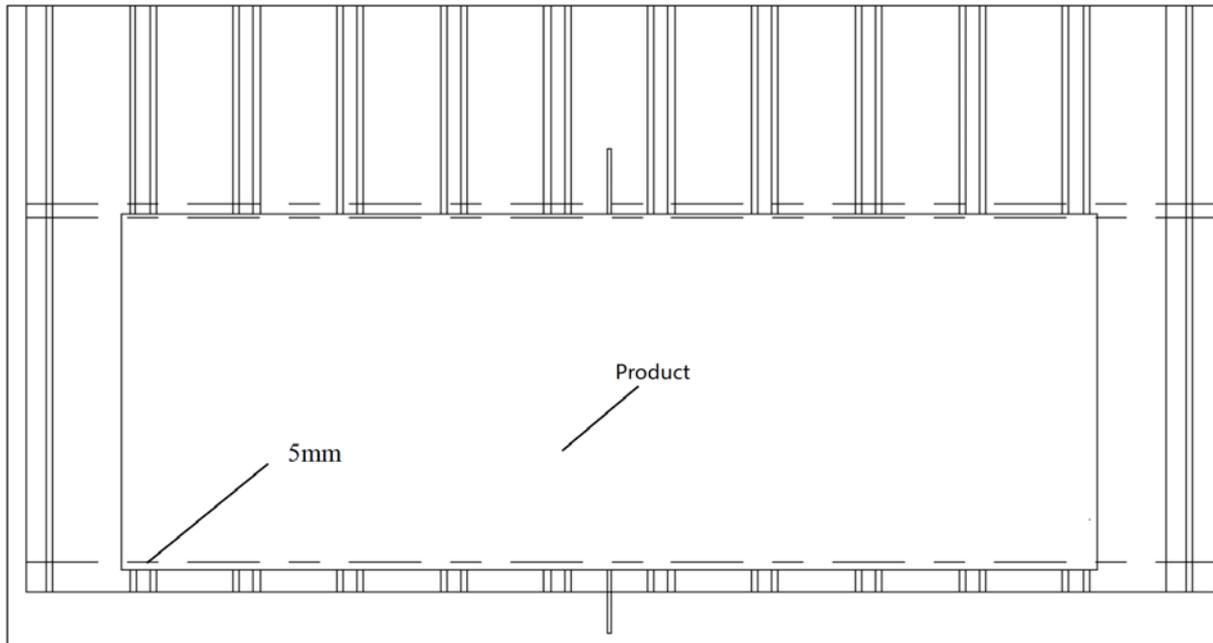

Figure 8
⑤ Two people should grab the four corners of the Galaxy product, lift and carry it vertically, and then adhere the Galaxy product face-up to the color steel tile. The end of the structural adhesive should be indented by 5mm from the edge of the product's long side. (Figure 8)